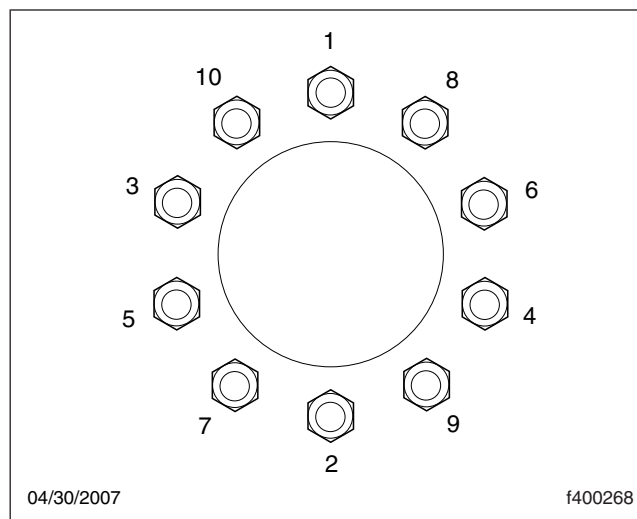

Fig. 23.4, Tightening Pattern, 10-Hole Wheels
- 4.3 Make sure all wheel nuts are tightened. If tightening is necessary, use the tightening pattern in Fig. 23.4 to initially tighten the flange nuts to 50 to 100 lbf-ft (68 to 136 N·m). Then tighten the flange nuts to 450 to 500 lbf-ft (610 to 678 N·m).